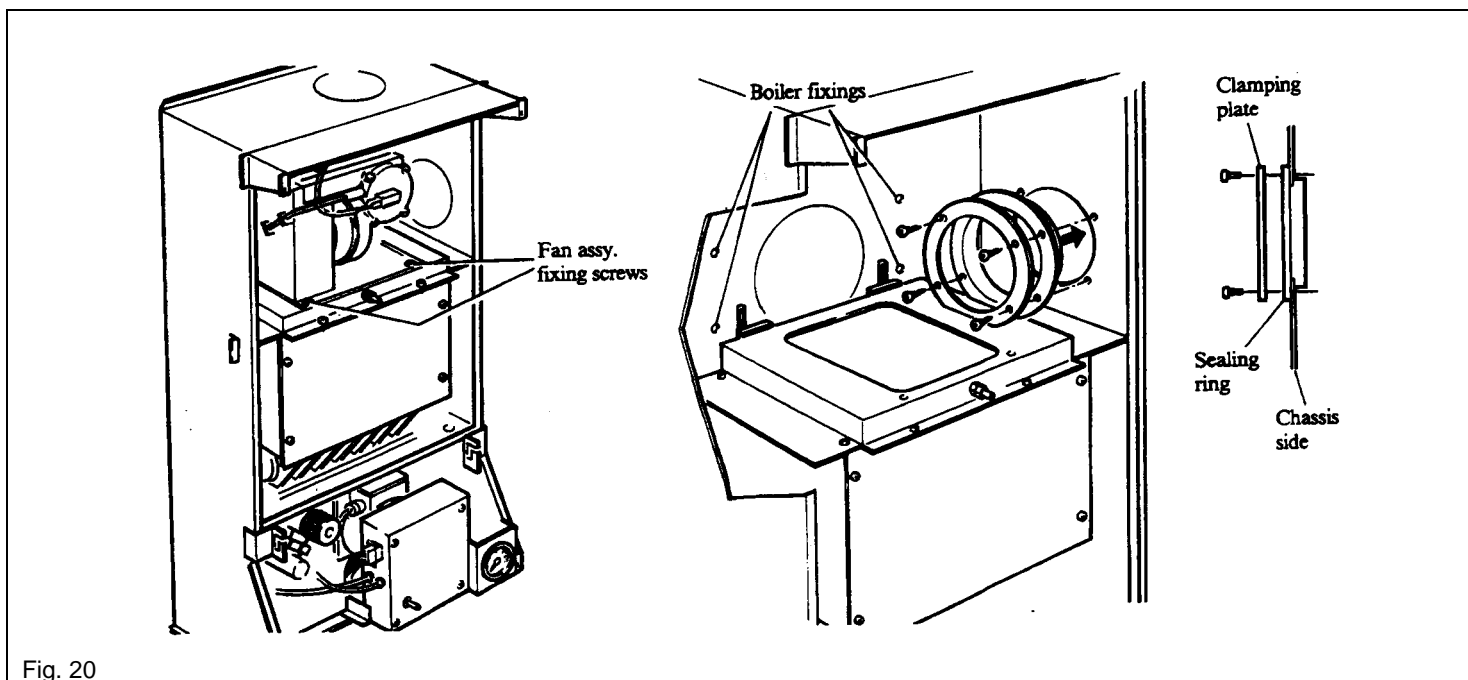

Fig. 20
3. Remove the two screws securing the fan assembly to the flue hood. Withdraw the assembly, disconnecting the fan motor and pressure switch leads. See Fig. 20.
8. Place the rubber sealing ring, supplied with the flue/terminal assembly, in position in the opening in the chassis side as shown in Fig. 20. Ensure that the cut-away is at the bottom, that the groove in it is located correctly over the chassis side and that the holes line up with the fixing holes in the chassis side.